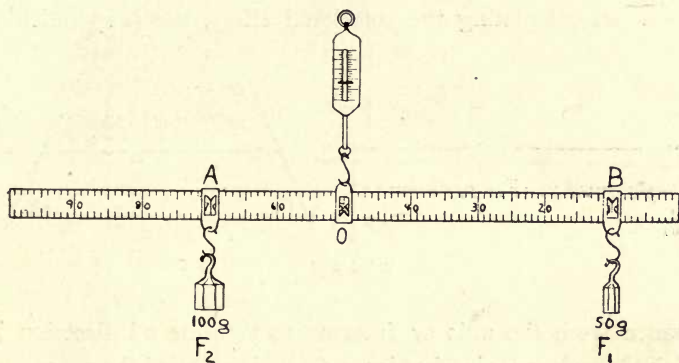

FIG. 256
the opposite way and the various parts of the lever move, with the exception of one point (O). It is about this point O that rotation takes place. O is called the *fulcrum*, which remains stationary. We have thus two forces pulling in one direction and a third force acting between them and in the opposite direction. Let us support a meter stick at its middle point O (Fig. 256) by means of the clamp and the spring balance. Let us place movable clamps, A and B , on either side of O and note the reading of the balance. This shows the downward pull of the meter stick and clamps. Let us now place a 100 g. weight on A and a 50 g. weight on B . If we place B at the 10 cm. mark, we find that A must be placed at the 70 cm. mark to produce equilibrium. The force F_1 acting upon B is one-half as great as the force F_2 acting upon A . The distance BO , however, is